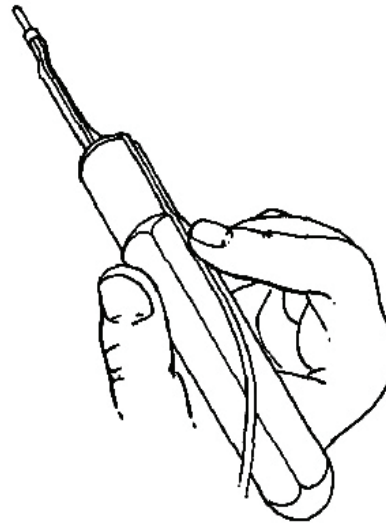

Figure 10. Inserting Contact into Insertion Tool
- d. Place wire and contact assembly into colored tip of insertion tool (Figure 10). Ensure tool tip is over conductor barrel and butted against contact shoulder.